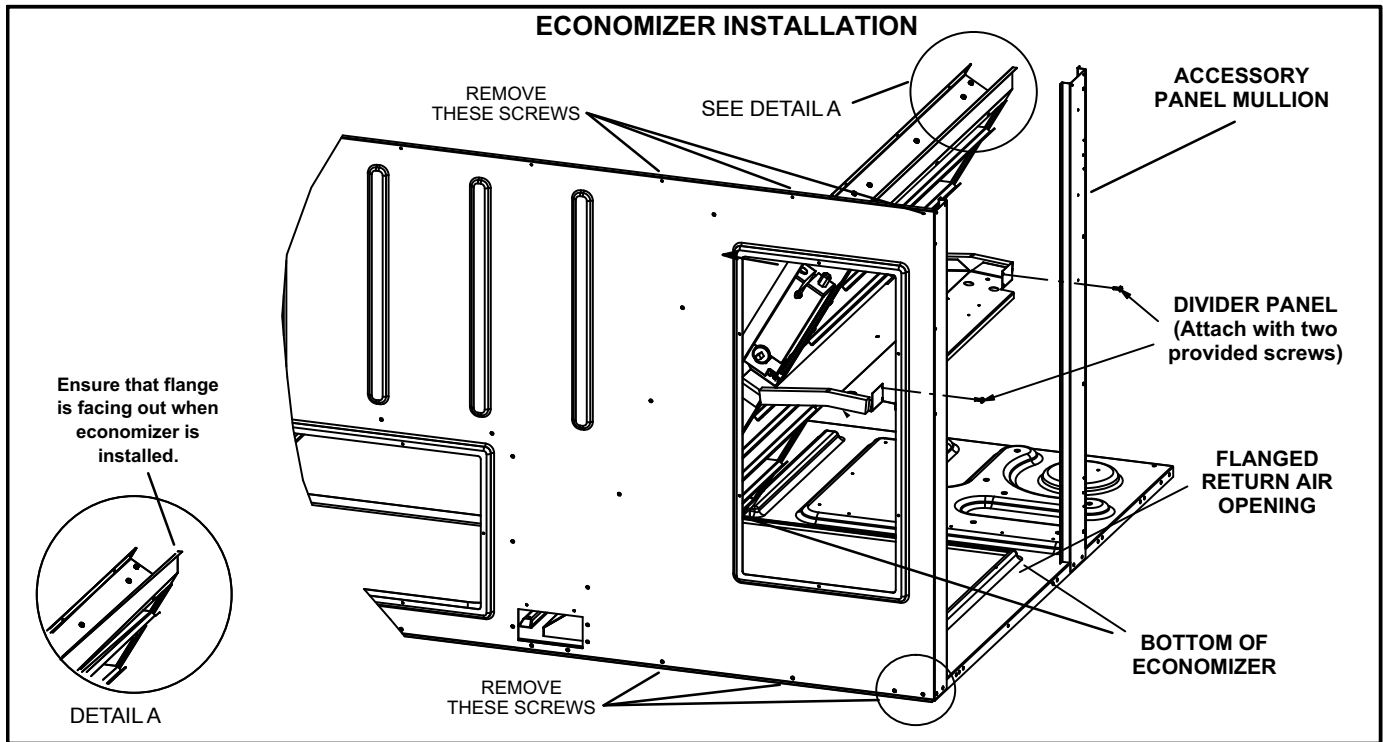

FIGURE 12
- 3- Remove and retain screws from top and bottom of rear panel. Remove screws from accessory panel mullion and remove mullion. Lift the top of the unit as needed. See figure 12.
- 4- Slide the bottom of the economizer over the flanged return air opening in the base of the unit until it settles into place. See figure 12.
- 5- Use provided screws to secure economizer divider panel to unit end mullion and accessory compartment mullion as shown in figure 12.